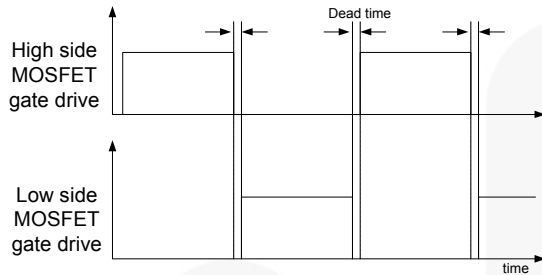

Figure 16. MOSFETs Gate Drive Signal
**1. Basic Operation:** FSFR-series is designed to drive high-side and low-side MOSFETs complementarily with 50% duty cycle. A fixed dead time of 350ns is introduced between consecutive transitions, as shown in Figure 16.